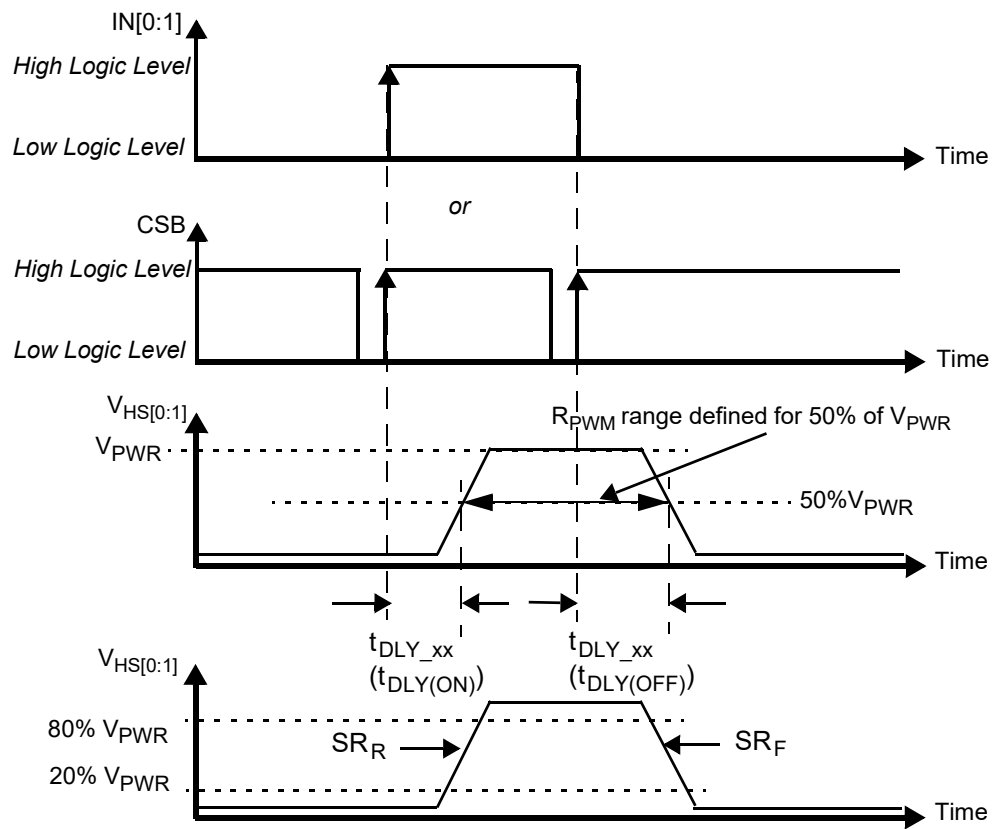
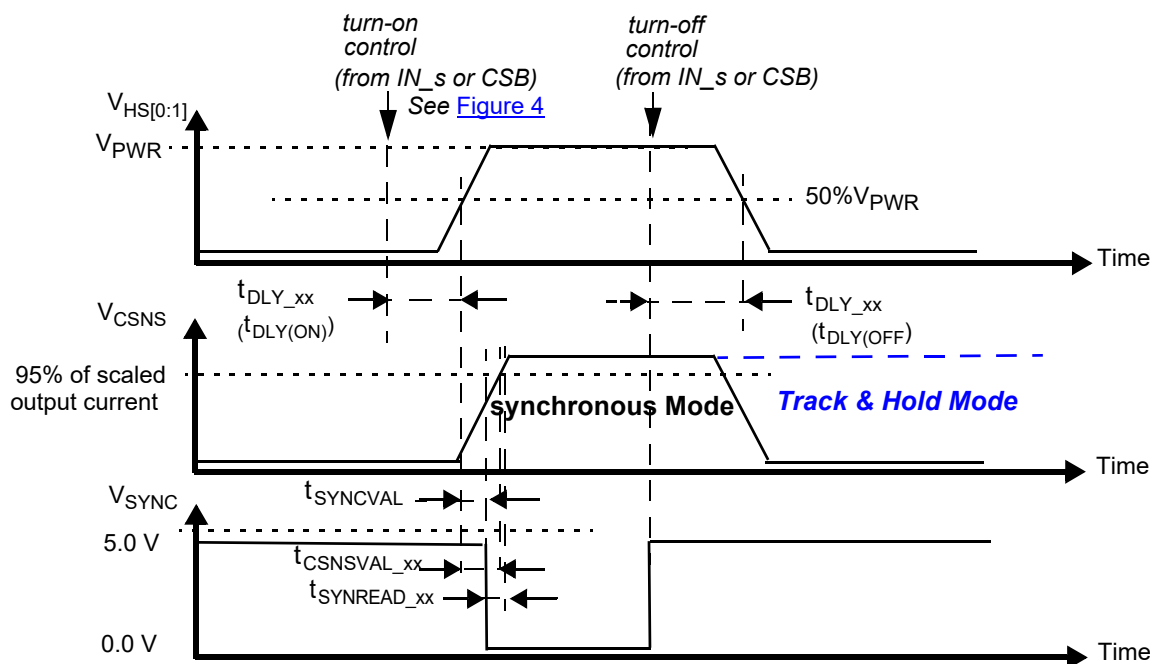

Figure 4. Output voltage slew rate and delay
Figure 9. Synchronous and Track & Hold current sensing modes: associated delay and settling times
30. Rising and Falling edge slew rates specified for a 20 to 80% voltage variation on a $10\text{ }\Omega$ resistive load (see Figure 4).
32. Time required to switch off the channel after detection of overtemperature (OT), overcurrent (OC), SC or UV error (time measured between start of the negative edge on the FSB pin and the falling edge on the output voltage until $V(\text{HS}[0:1]) = 50\%$ of V_{PWR}).
33. Settling time ($= t_{\text{CSNSVAL_xx}}$), SYNC output signal delay ($= t_{\text{SYNCVAL_xx}}$) and Read-out delay ($= t_{\text{SYNREAD_xx}}$) are defined for a stepped load current ($100\text{ mA} < I(\text{LOAD}) < I(\text{OCLX_A})$ FOR $\text{CSNS_RATIO_S} = 1$, AND $300\text{ mA} < I(\text{LOAD}) < I(\text{OCLX_A_0})$ FOR $\text{CSNS_RATIO_S} = 0$). (see Figure 9 and Output current monitoring \(CSNS\))
34. Settling time ($= t_{\text{CSNSVAL_xx}}$), SYNC output signal delay ($= t_{\text{SYNCVAL_xx}}$) and Read-out delay ($= t_{\text{SYNREAD_xx}}$) are defined for a stepped load current ($100\text{ mA} < I(\text{LOAD}) < I_{\text{OCLX A}}$ FOR $\text{CSNS_RATIO_S} = 1$, AND $300\text{ mA} < I(\text{LOAD}) < I_{\text{OCLX A_0}}$ FOR $\text{CSNS_RATIO_S} = 0$). (see Figure 9 and Output current monitoring \(CSNS\))
The CS pin allows independent current monitoring of channel 0 or channel 1 up to the steady-state overcurrent threshold. It can also be used to sense the device temperature. The different functions are selected by setting bits $CSNS1_en$ and $CSNS0_en$ to the appropriate value (Table 23). When the CSNS pin is sensed during switch-off in the (optional) track & hold mode (see Figure 9), it outputs the scaled value of the load current as it was just before turn-Off. When several devices share the same pull-down resistor, the CSNS pins of devices, the current of which is not monitored, must be tri-stated. This is accomplished by setting $CSNS0_en = 0$ and $CSNS1_en = 0$ in their GCR register (Table 12). Settling time ($t_{CSNSVAL_xx}$) is defined as the time between the instant at the middle of the output voltage's rising edge ($HS[0:1] = 50\%$ of V_{PWR}), and the instant at which the voltage on the CSNS pin has settled to $\pm 5.0\%$ of its final value. Anytime an overcurrent window is active, the CSNS pin is disabled (see Overcurrent detection on resistive and inductive loads). The current and temperature sensing functions are unavailable in Fail-safe mode and in Normal mode when operating without the V_{DD} supply voltage. In order to generate a voltage output, this pin requires a pull-down resistor ($R(CSNS)=1.0\text{ k}\Omega$ typ. and $470 < R(CSNS) < 10\text{ k}$). When the current sense resistor connected to the CSNS pin is disconnected, the CSNS voltage is clamped to $V_{CL(CSNS)}$. The CSNS pin can source currents up to about 5.6 mA .
To synchronize current sensing with an external process, the SYNC signal can be connected to a digital input of an external MCU. An open-drain pull-down on SYNC indicates that the current sense signal is accurate and ready to be read. The current sense signal on the CSNS pin has the specified accuracy $t_{SYNCREAD_xx}$ seconds after the falling edge on the SYNC pin (Figure 9) and remains valid until a rising edge is generated. The rising edge that is generated by the SYNC pin at the turn-OFF instant (internal or external) may also be used to implement synchronization with the external MCU. Parameter $t_{SYNCVAL_xx}$ is defined as the time between the instant at the middle of the output voltage rising edge ($HS[0:1] = 50\%$ of V_{PWR}), and the instant at which the voltage on the SYNC-pin drops below 0.4 V (V_{SOL}). The SYNC pins of different devices can be connected together to save micro-controller input channels. However, in this configuration, the CSNS of only one device should be active at a time. Otherwise, the MCU is not be able to determine the source of the SYNC signal. The SYNC pin requires an external pull-up resistor to V_{DD} .